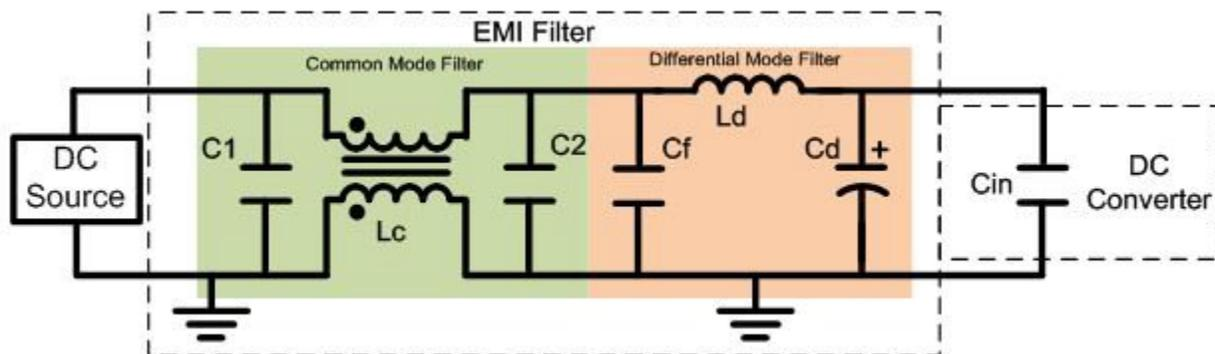

Figure 1. A Simplified EMI Filter
Figure 1 shows a simplified EMI filter, which includes a common-mode (CM) filter and a differential mode (DM) filter. Generally, the DM filter filters noise less than 30MHz and the CM filter filters noise from 30MHz to 100MHz. Both filters have an effect on the entire frequency band where EMI needs limiting.